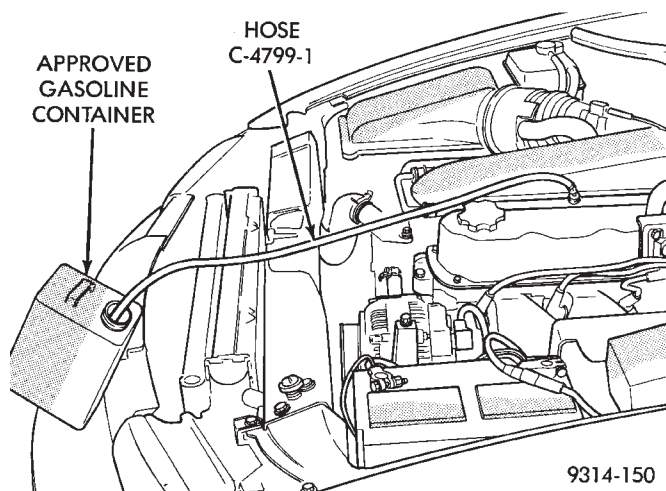

Fig. 17 Releasing Fuel Pressure
- (4) Place the open end of fuel pressure release hose, tool number C-4799-1, into an approved gasoline container. Connect the other end of hose C-4799-1 to the fuel pressure test port (Fig. 17). Fuel pressure will bleed off through the hose into the gasoline container. Fuel gauge C-4799-A contains hose C-4799-1.